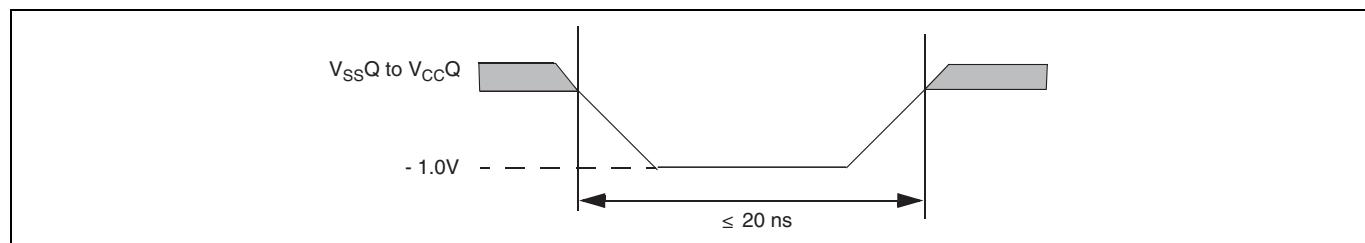
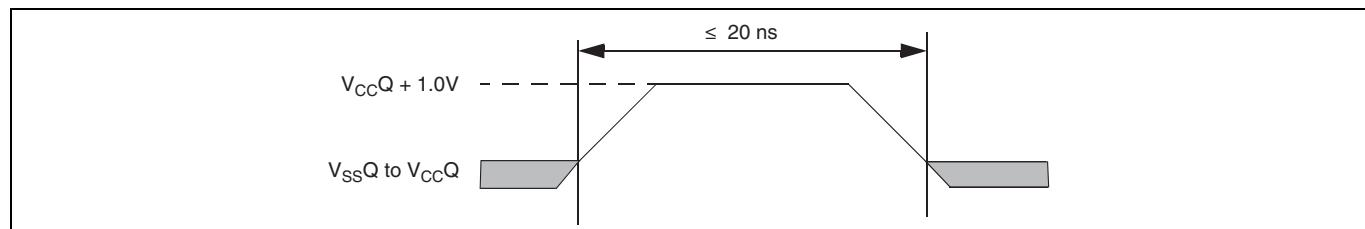

Figure 27 Maximum negative overshoot waveform
Figure 28 Maximum positive overshoot waveform
33. Minimum DC voltage on input or I/O signal is -1.0V. During voltage transitions, input or I/O signals may undershoot VSS to -1.0V for periods of up to 20 ns. See Figure 27. Maximum DC voltage on input or I/O signals is VCC +1.0V. During voltage transitions, input or I/O signals may overshoot to VCC +1.0V for periods up to 20 ns. See Figure 28.